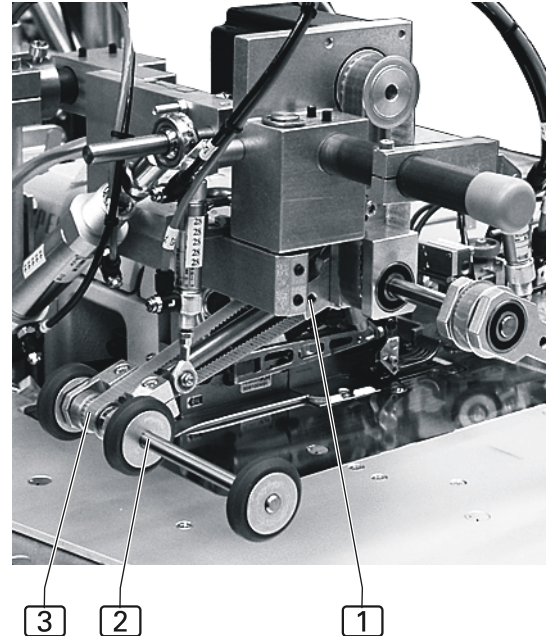

Fig. 5
3. **Fig. 5:** Slacken the toothed belt **[3]** by removing the Allen screw **[1]** at the bearing and sliding the spacer shaft with the transport rollers **[2]** up.